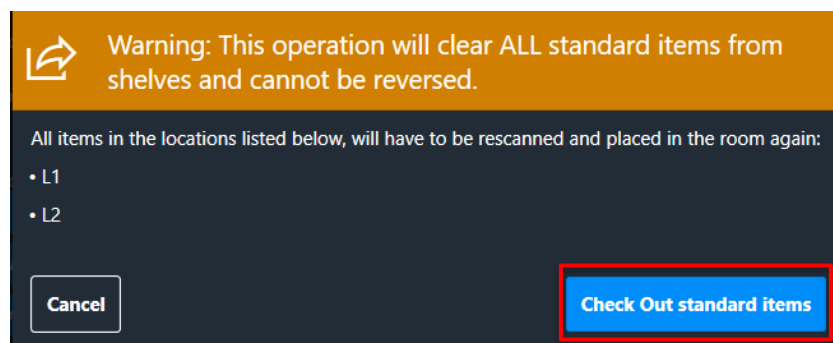

Figure 65: Standard items warning
A warning dialog opens informing you that once you proceed, the action cannot be reversed. The locations listed are site specific. In the example below, all standard items are located on shelves L1 and L2. See Figure 65.
5. To remove all packages from the shelves, tap **Check Out standard items**. See Figure 65.